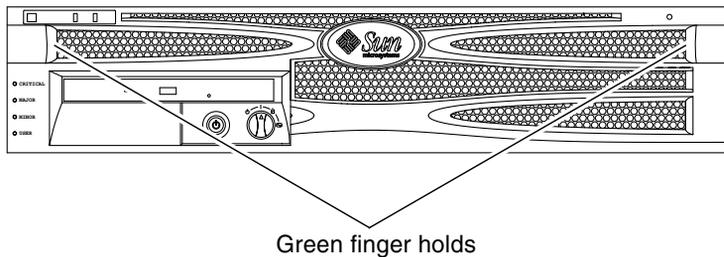

FIGURE 2-4 Finger Holds on the Bezel
4. **Grip the bezel at the two finger holds and rotate it down to its open position (FIGURE 2-4).**
3. Grip the bezel at the two finger holds and rotate it down to its open position (FIGURE 2-4).